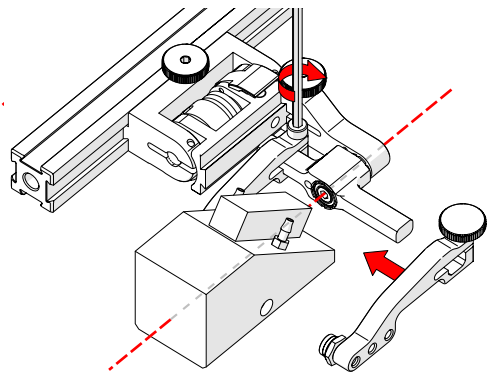

Fig. 92 - Place wedge
7. Position the wedge on the inner probe holder arm (Fig. 92).